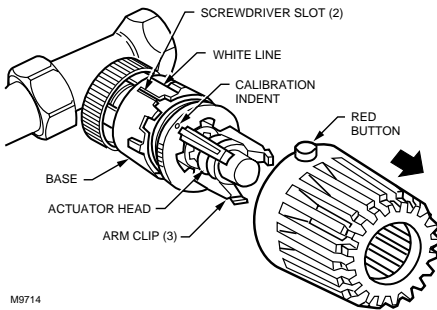

Fig. 8. Remove knob from actuator.
3. Pull the knob off the head. See Fig. 8.